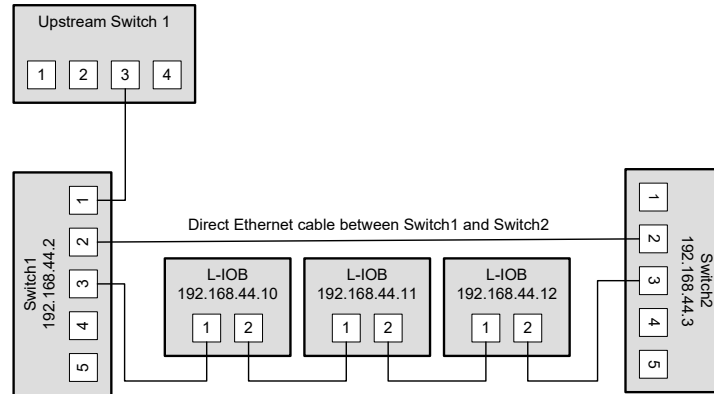

Figure 61: Single upstream connection.
**Single upstream connection:** Switch1 (or Switch2, but not both) is connected to the upstream network while Switch2 only provides a redundant path to the LOYTEC devices. The redundant path is created by a direct Ethernet cable between Switch1 and Switch2 which needs to be plugged into a lower-numbered port than the L-IOB devices are connected to. If this is not possible, the STP port priority for the cross-connection cable needs to be set to a low value. The RSTP domain should be restricted to Switch1 and Switch2. This can be done by enabling a BPDU filter on the port on Upstream Switch 1. This will block all RSTP packets to enter the upstream network. A sample setup for this topology is shown in Figure 61.